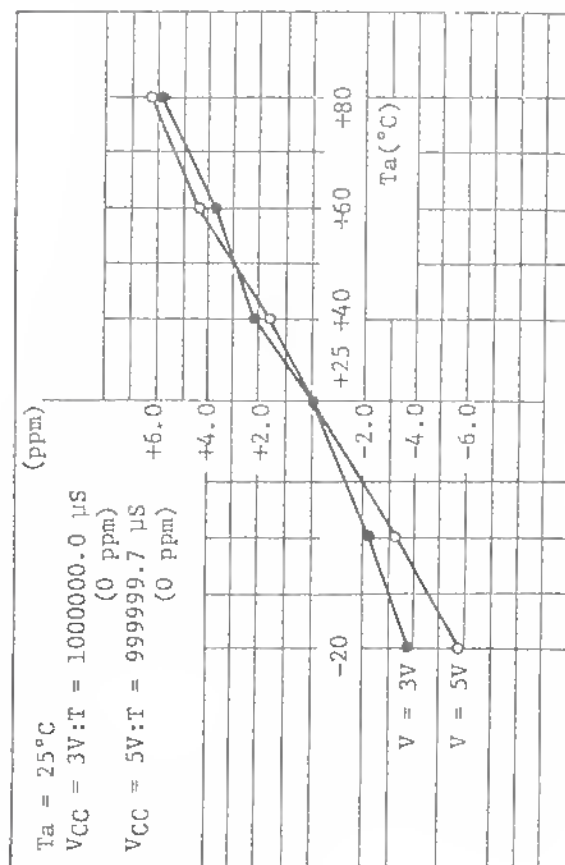

FIGURE 2
32.768kHz OSCILLATOR (pins 16 and 17): An internal inverting amplifier with feedback resistor, R_{FB} , is connected with a crystal and two capacitors as shown in Figure 6 to form a stable, accurate oscillator -- which serves as the precision time base of the circuit. Capacitors C1 and C2 in series provide the parallel load capacitance required for precise tuning of the quartz crystal. Typical oscillator performance as a function of ambient temperature and supply voltage is shown in Figures 2 and 3 respectively.